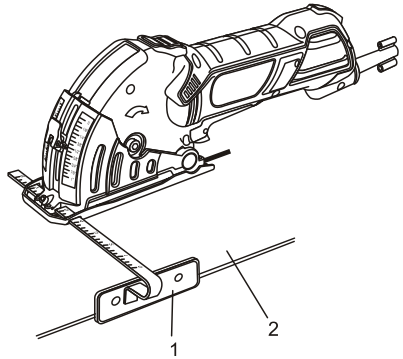

Fig. 9
To cut using the edge guide, follow the same basic principles as noted in Paragraphs 1 through 8 above. Instead of following a cutting line, you will simply set the edge guide at the appropriate width and hold the guide shoe (1) against the edge of the workpiece (2) to guide the blade in a straight line (Fig. 9).